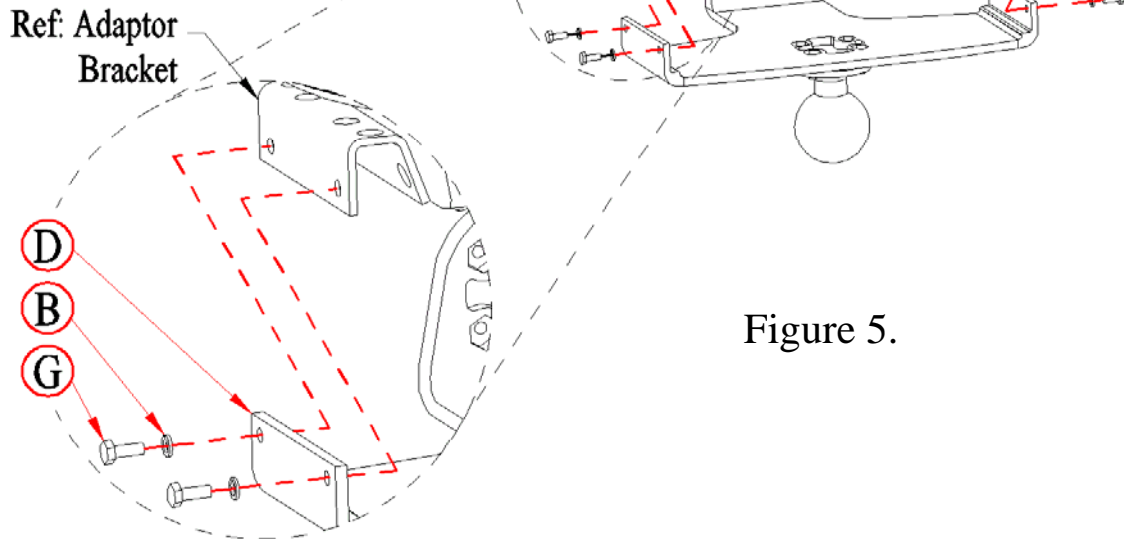

Figure 5.
Note: Before installing this mounting system, the adaptor brackets in MT3210 should be installed (see Figure 5 on page 4 of this document).
Place Hex Screw (G) through Split/Lock Washer (B), Display Cradle (D), and affix to the referenced Adaptor Bracket. Four places (see Figure 5).